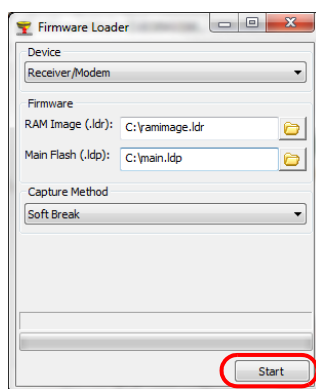

Figure 5-9. Upload Firmware Loader Dialog Box
2. Click on the *Firmware Loader* icon in the main window (Figure 5-9).
On The *Upload Firmware Loader* dialog box (Figure 5-9) you can upload firmware files to the connected receiver.
5. Browse for and select the receiver board’s RAM image file and Main Flash file (Figure 5-9)
6. Press **Start** to upload the selected files (Figure 5-9).